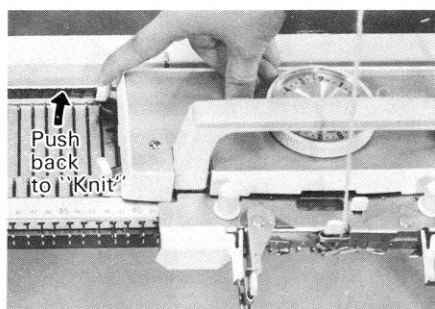

Fig.44
- i) With the carriage on the right, set to "KNIT" the left hand guide cam lever and turn the tension dial to No.4 or 5. Turn backwards one of the row counter trip arms so that now it will activate the row counter. (Fig.44)